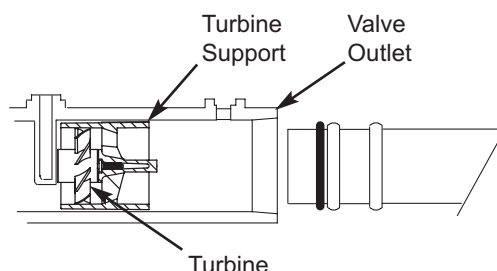

FIG. 10
- Make sure that the turbine and support are in place in the valve outlet, as shown in Figure 10.